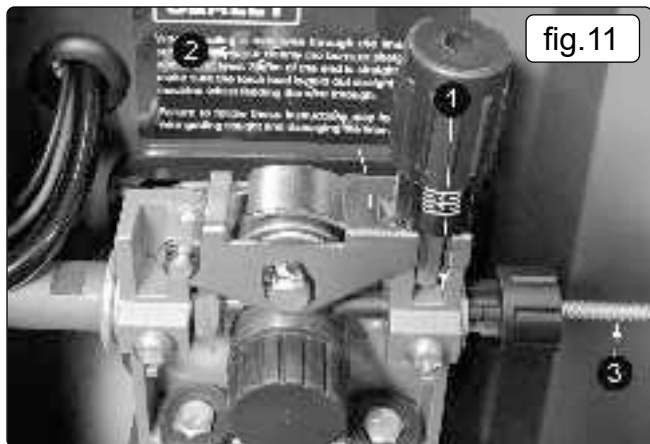

fig.11
- 4.13.1. Open the wire feed mechanism by pushing the locking/wire tension knob (1) down to the right allowing the pressure roller carrier (2) to spring up revealing the feed roller as shown in fig.11. Ensure that the required feed groove (0.6 or 0.8) is in line with the wire path. See Section 4.15 on how to reverse or change the roller.
- 4.13.3. Straighten about 40-50mm of wire and gently push it through the flexible metal sheathed cable, fig.11 (3) and through the 6 or 8mm feed roller groove and on into the torch cable liner.
- 4.16.2. Referring to fig.11, open the wire feed mechanism by pushing the locking/wire tension knob (1) down to the right allowing the pressure roller carrier (2) to spring up revealing the feed roller.